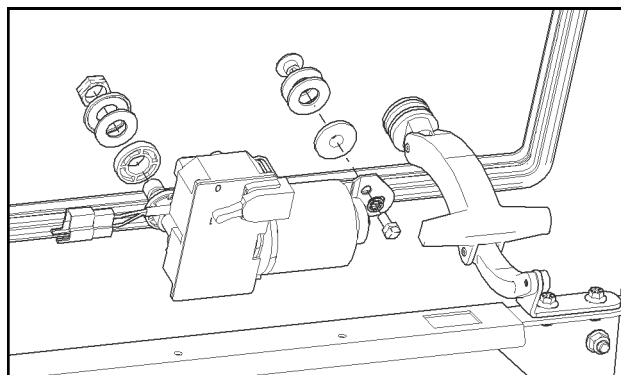

Fig. 18.1 (Windshield Wiper Motor)
18.1 Mount the wiper motor to the windshield. See Figure 18.1. Make sure the wires are above the wiper motor shaft to prevent pinching the wire when the windshield is opened and closed.